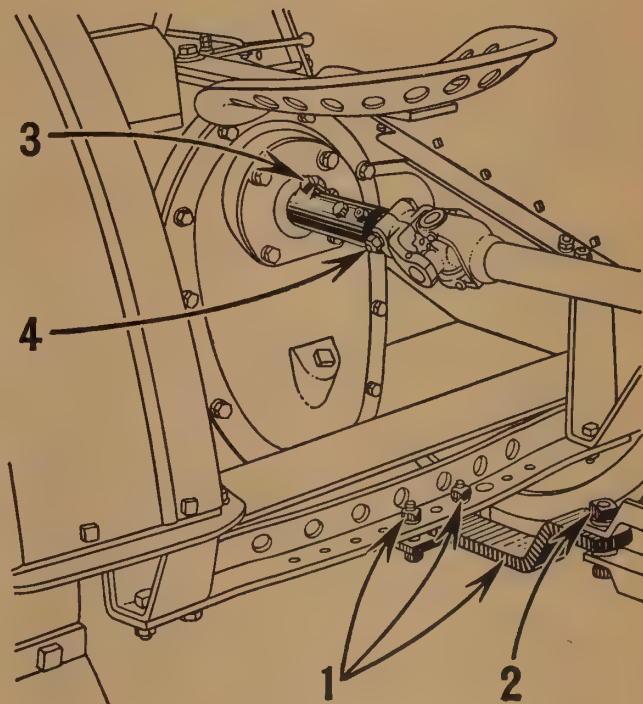

Fig. 29
1. (Fig. 29.) Remove swinging drawbar from tractor and replace with new one furnished. Clamp drawbar in center of drawbar guide.
2. (Fig. 29.) Connect Binder to tractor drawbar.
3. (Fig. 29.) **Case "C", "CC" and "DC" Tractors without power lift only.** Slide take-off shaft extension onto take-off shaft on tractor. Secure with clamp bolt.